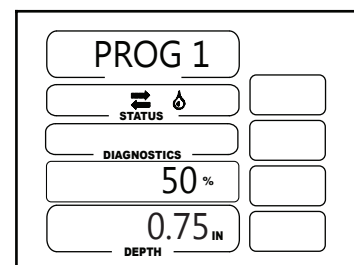

Figure 18-4
9. Press  to turn on the water and then press  or  to change the depth of water application setting inside of the sector. See figure 18-4.